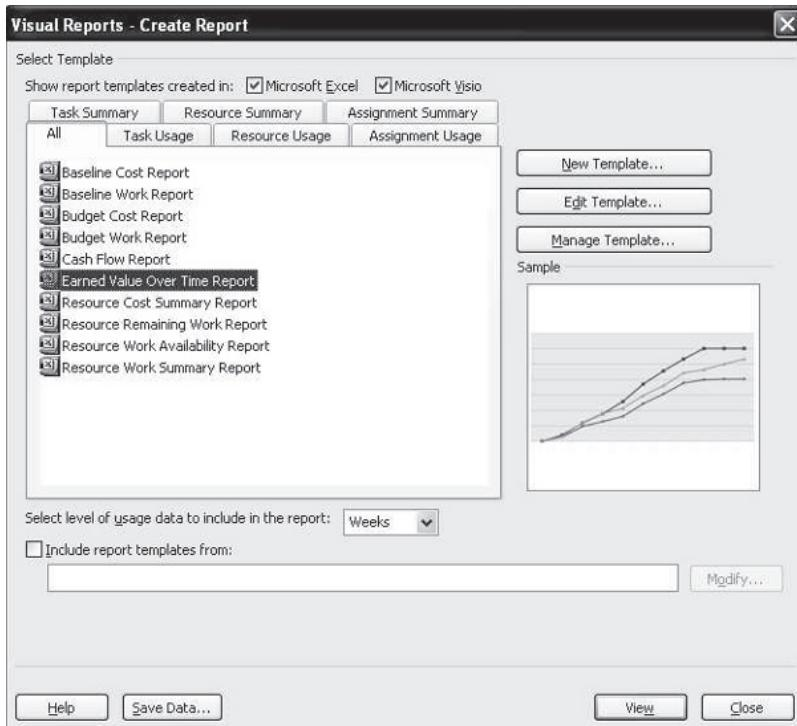

FIGURE A-56 Visual Reports dialog box
- View the earned value chart. Click the Project tab, and then click the Visual Reports button under the Reports group to open the Visual Reports dialog box. Click Earned Value Over Time Report, as shown in Figure A-56. Notice the sample of the selected report on the right side of the dialog box. If you have Excel, click View to see the resulting report as Project 2010 automatically creates Excel data and a chart based on your current file. Close Excel without saving the file, and then click the Close button of the Visual Reports dialog box.